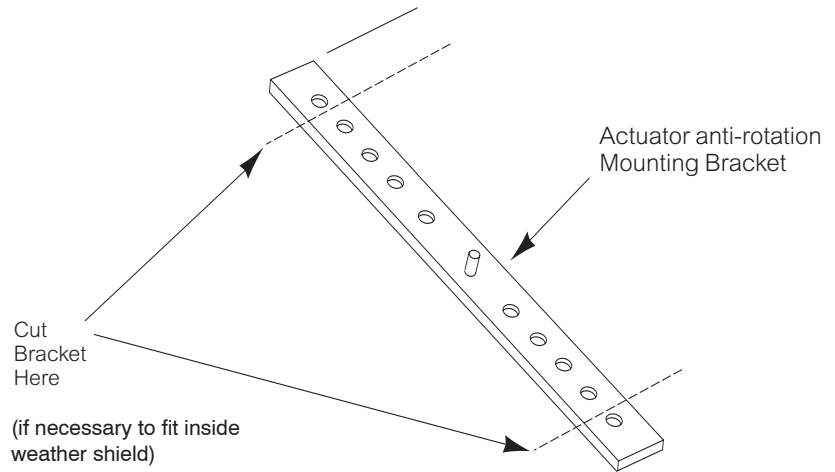

Figure-1 Shortening the Actuator Mounting Bracket.
3. Shorten both ends of the damper actuator's anti-rotation mounting bracket, if necessary to fit inside weather shield, by cutting it at each end (See Figure-1). Mount the damper actuator onto the base mounting plate. Install any accessories onto the actuator, as applicable.